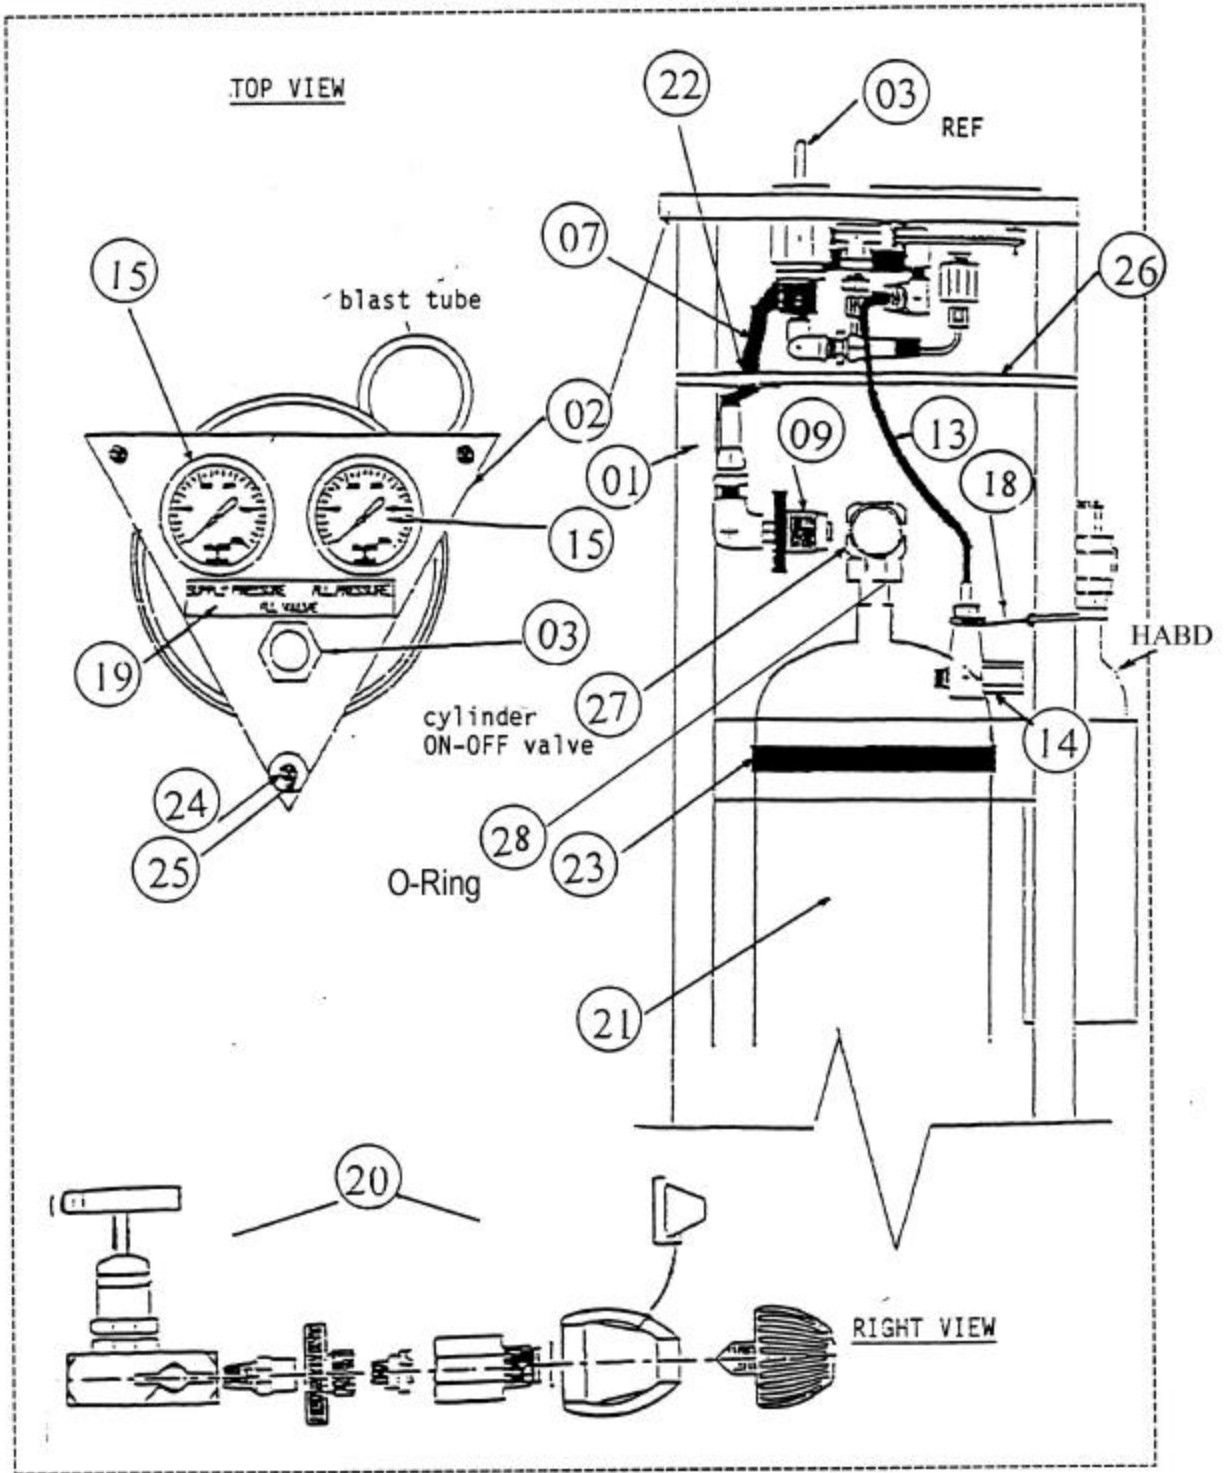

Figure 1-1. Portable Refill System (PRS) CQU-10/U
1.1.1 The CQU-10/U Portable Refill System (PRS) is a 120 cubic foot SCUBA cylinder with 3500 psi pressure designed to top-off or fill the new 3000 psi SRU-40/P Helicopter Aircrew Breathing Device (HABD) (Figure 1-1). The 3500 psi supply cylinder is mounted within a frame that provides protection, easier transportability, a blast tube, and a control panel for the unit. The control panel has a supply-pressure gauge to indicate the pressure existing in the supply tank and a fill-pressure gauge to indicate the pressure in the HABD being filled. The fill valve is a toggle-actuated knob to control the airflow from the PRS to the HABD. When it is full, the PRS should have enough air to fill about 10 HABDs.